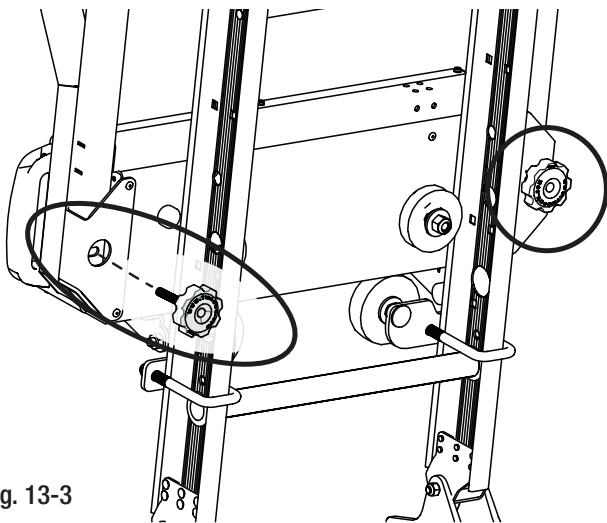

Fig. 13-3
- Repeat for opposite side hand knob. See Fig 13-3.